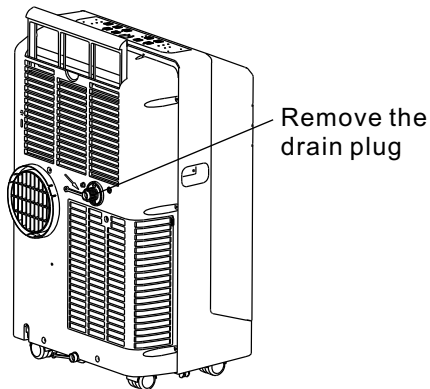

Fig.18
- While operating in Dry (dehumidifying) mode, remove the drain plug from the back of the unit, install the drain connector (5/8" universal female mender) with 3/4" hose (locally purchased). For the models without drain connector, just attach the drain hose to the hole. Place the open end of the hose directly over the drain area in your basement floor. Please refer to Fig.18 & 19.